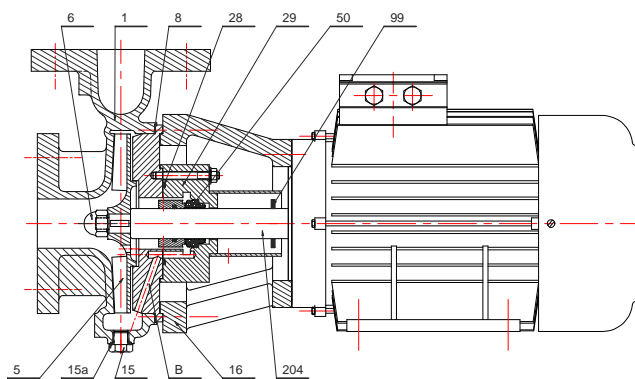

Fig 4
- The 106-209-210-216-312-316-414-516-522-614-619-827 pumps can be mounted only in single cell fig 4 or 6 if sleeve shaft